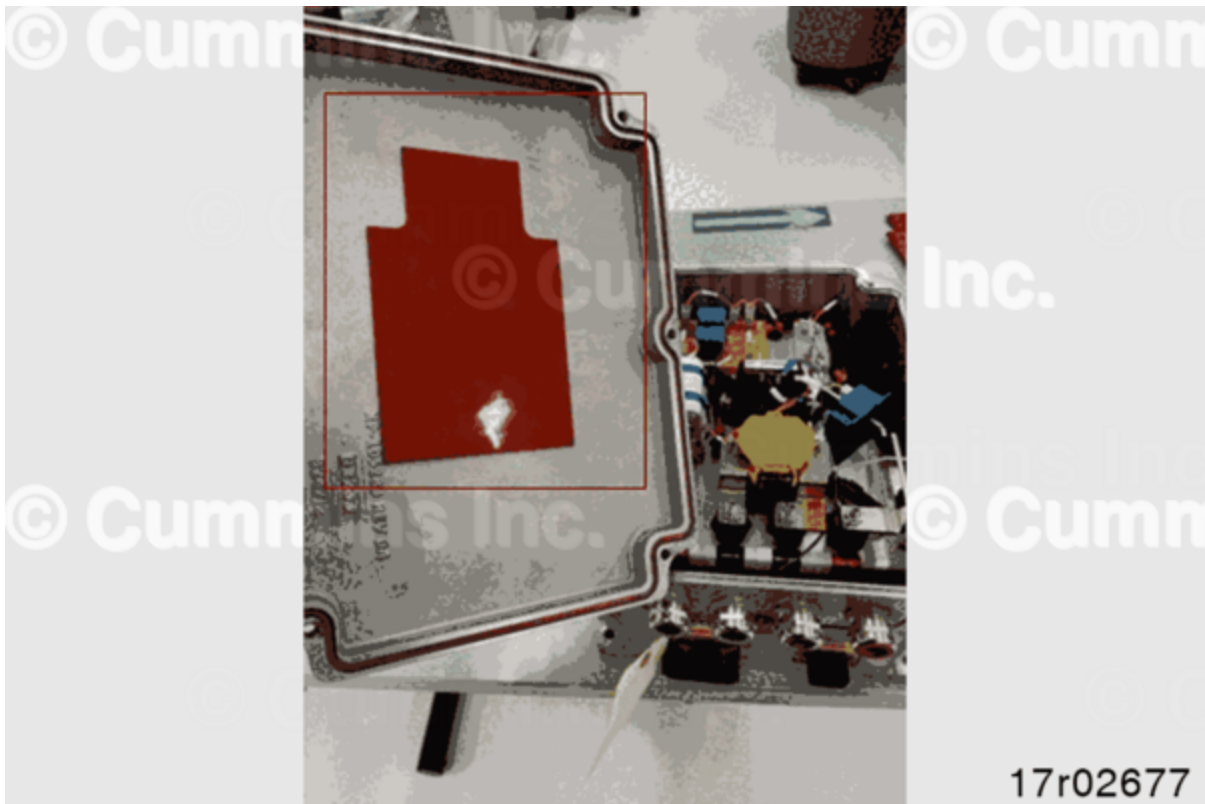

Figure 4, Adhesive pad provided (Part Number ESC 102912) applied on the back of the Pack management unit lid
- Apply adhesive pad, Part Number ESC102912, to back of pack management unit lid. See Figure 4.